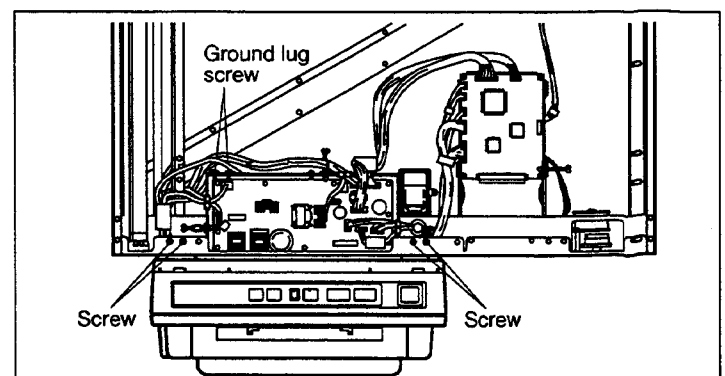

Fig. 5-7
- 7) Remove 2 ground lug screws shown in Fig. 5-7.
- 10) Remove 4 screws shown in Fig. 5-7.